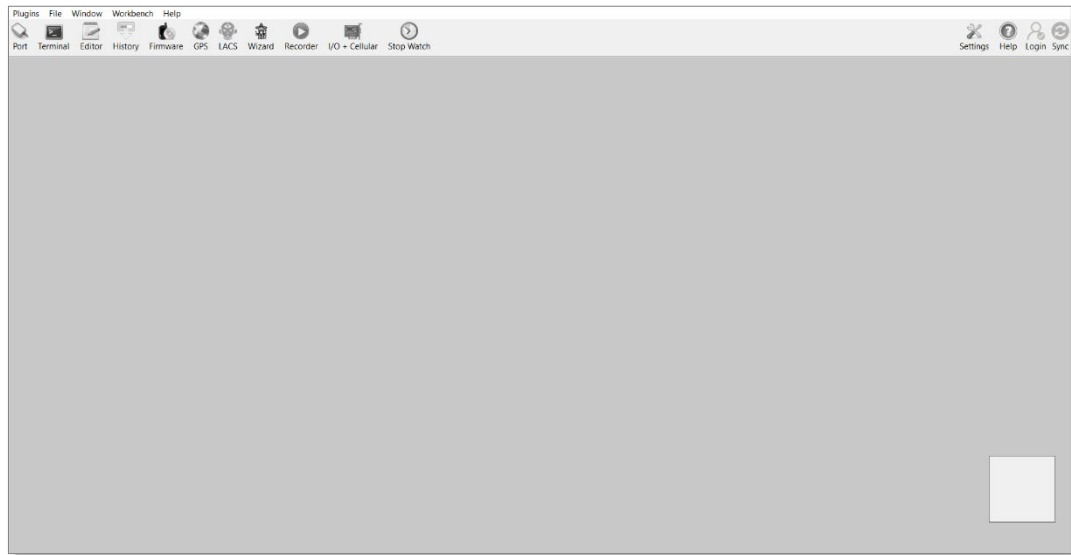

Figure 17: Workbench Interface
5. The Workbench UI displays (see **Figure 17** below).